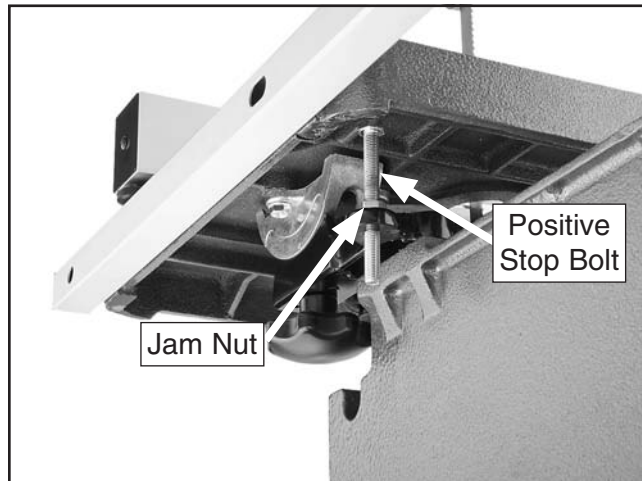

Figure 36. Positive stop bolt set so table is 90° to the blade (viewed from behind the table).
To tilt the table to the left, the positive stop bolt (see **Figure 36**) must be lowered, then re-adjusted after the table is returned to 0°.
6. Raise or lower the positive stop bolt until the table is perpendicular to the side of the blade, then re-tighten the jam nut (see **Figure 36**) against the casting to secure the setting.